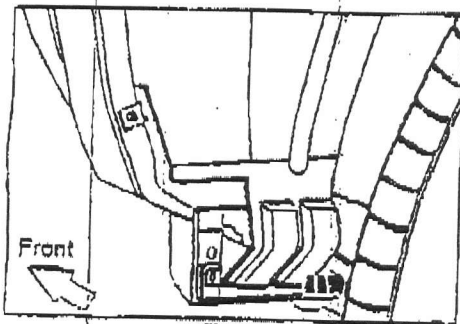

Fig. 4
6. Pull back the splash trim around the wheel well for clearance of hands and tools. (See Fig. 4)